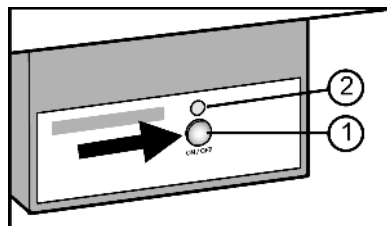

Fig. 14
- Press the On/Off button Fig. 14 (1) so that the LED Fig. 14 (2) shines.